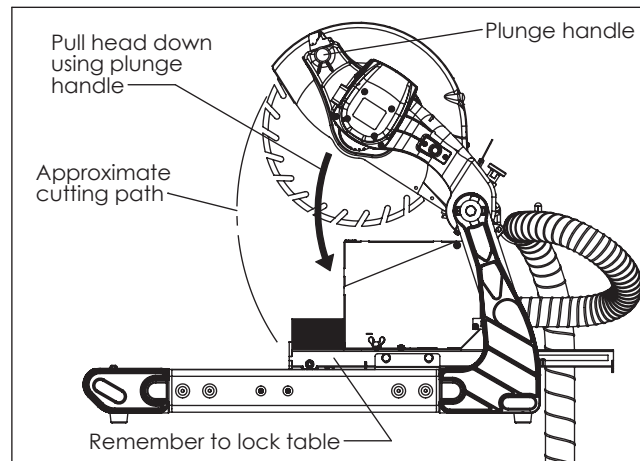
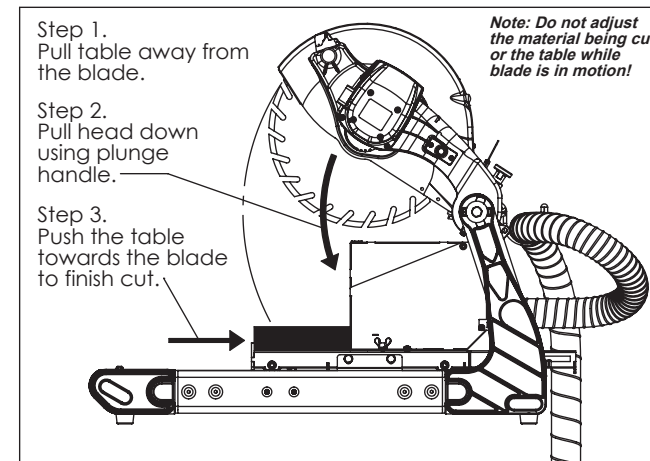

Figure 9: Chop cutting
Figure 10: Long cutting
3. Vacuum table can be used for repetitive chop cutting as shown in Fig. 9. Table lock must be used. The table can also make long cuts by chopping and then pushing the table towards the blade as shown in Fig. 10. Do not use table lock when cutting in this manner..